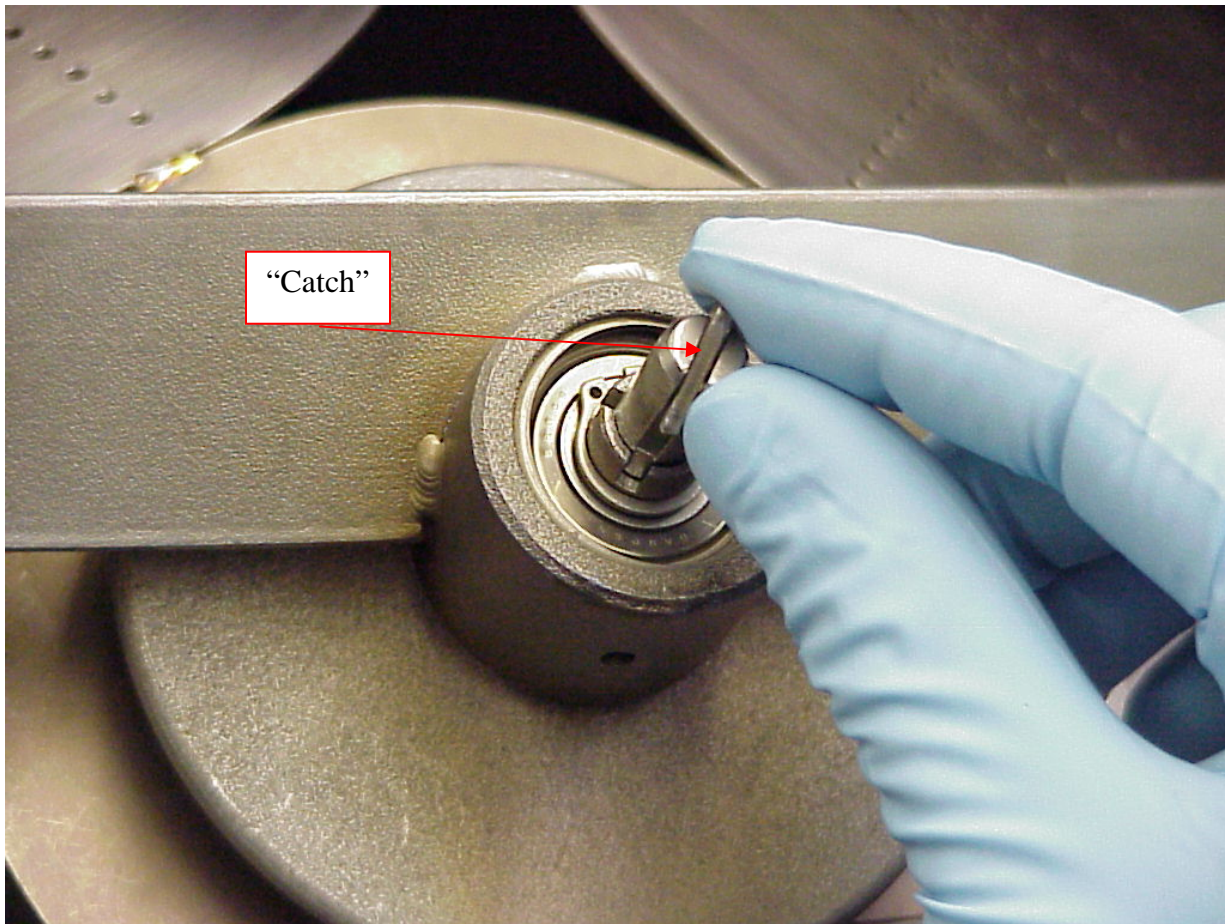

Figure 4-5: Sample holder – releasing “catch”
1. Release the sample holder from its mount by pushing it up and flipping the small “*catch*” to align with the shaft of the holder. See Figure 4-5. Then slide the shaft down.